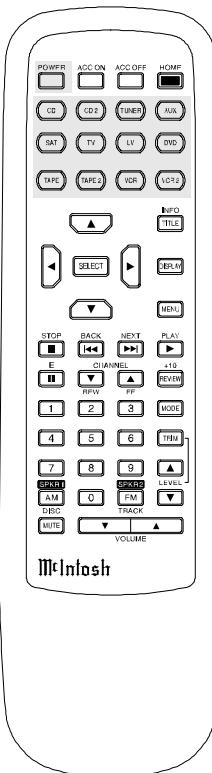

Figure 2
- B. If the cable is stranded, carefully twist the strands together as tightly as possible. Refer to figures 2 & 3.
Select the desired source with the appropriate push-button switch on the Front Panel or Remote Control. Refer to figures 2 and 3 and page 15 for additional information.